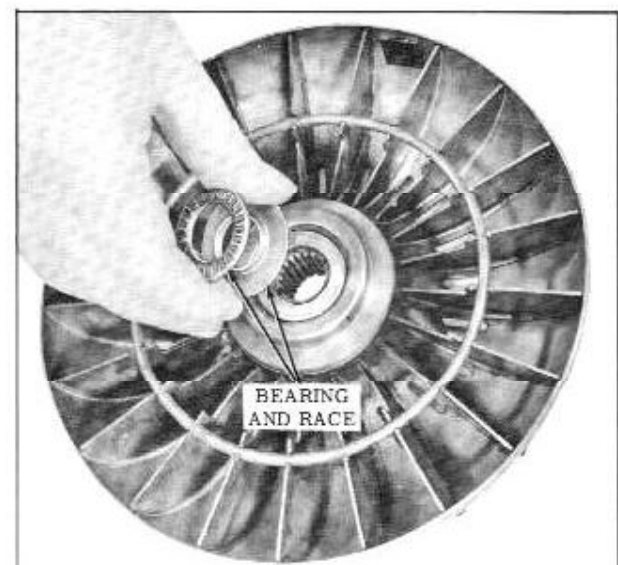

Fig. 3-110 Driven Torus Bearing
39. Install cupped race and bearing into driven torus, bearing out. Retain with petrolatum. (Fig. 3-110)